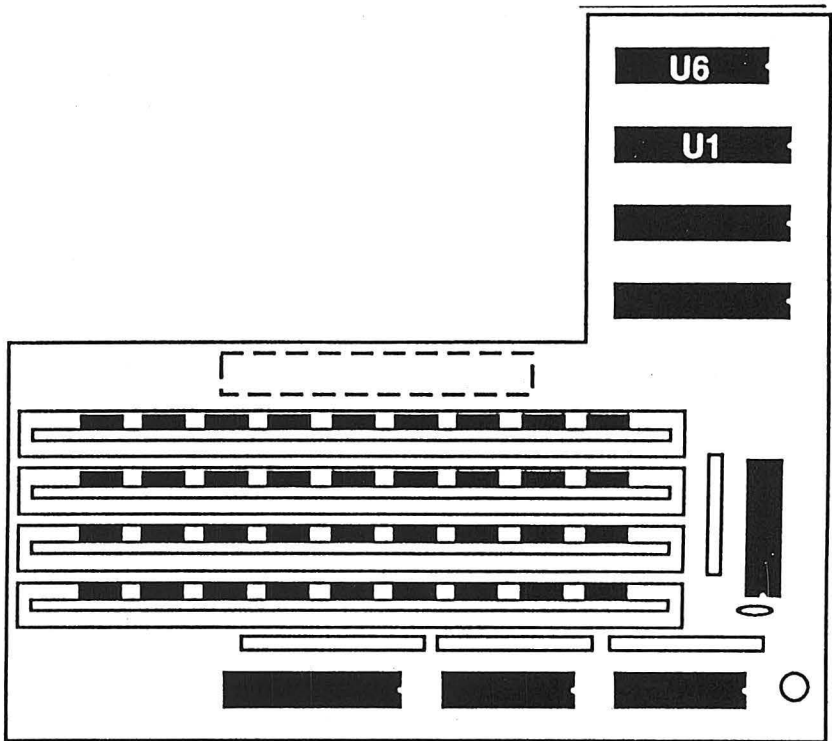

Figure 5
5. Locate the IC chip U1 on RAMCard (see Figure 5). The chip currently in that socket is usually marked as RL-701605. Using a small flat blade screwdriver or IC extractor, remove this chip and replace it with the GAL IC included with your kit (CMD part number RL-701606). Make sure that the chip orientation is correct before installing (notch to the right as shown in Figure 5).
6. Locate the socket for U6 on RAMCard (see Figure 5). Install the RTC chip (CMD part number HD-201010) into that socket, making sure that the orientation is correct (notch to the right as shown in Figure 5).